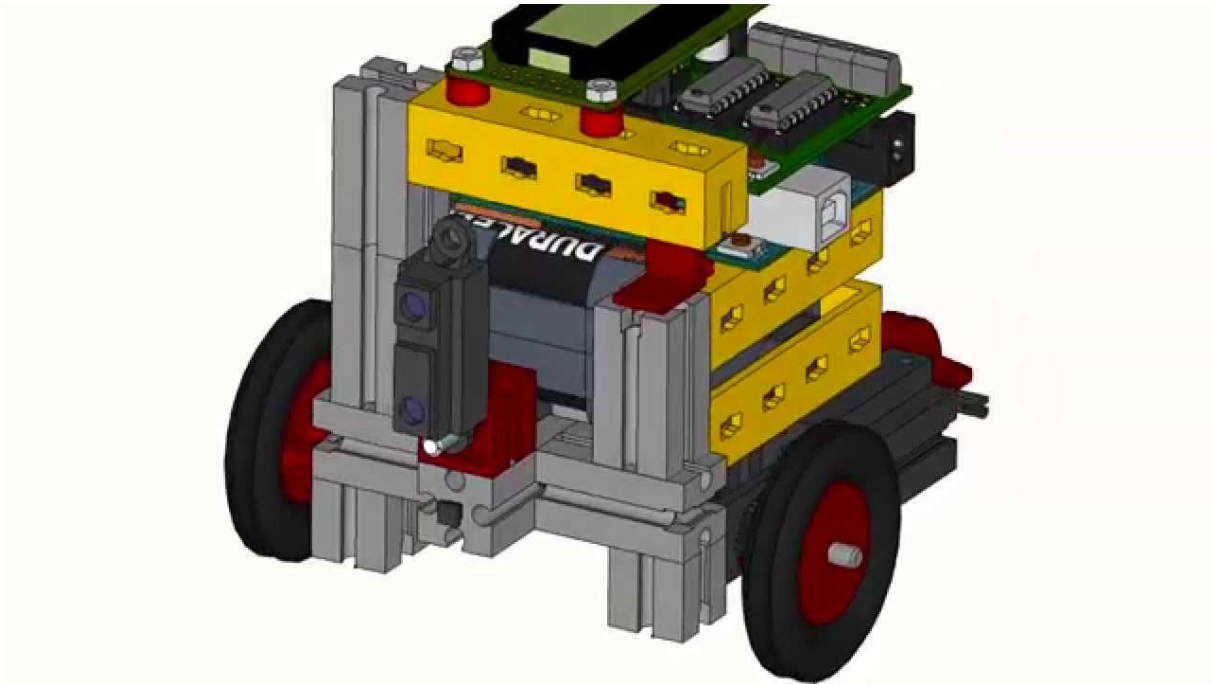

Figure 6.4: Mounting position of analog distance sensor.
2. Equip the robot with distance sensor according to video and scheme (see fig. 6.4).